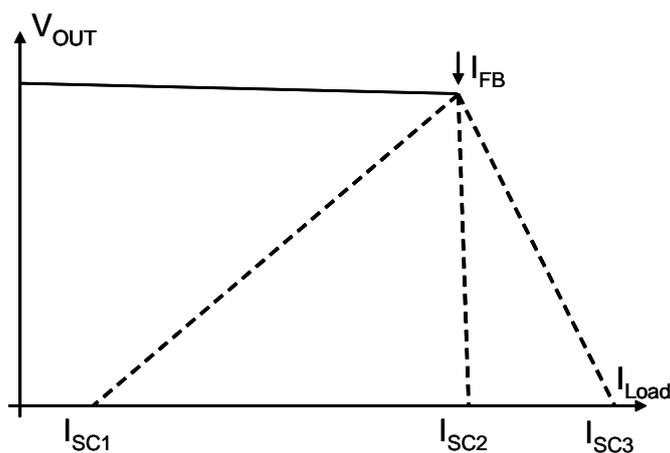
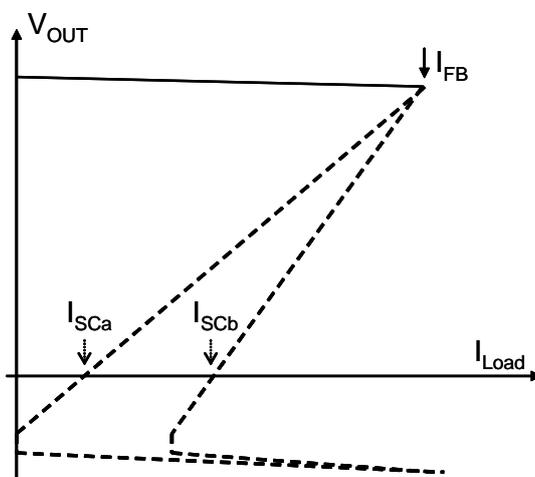

Figure 1: Typical serial regulator DC characteristic with short-circuit protection level lower, equivalent or higher than the foldback current I_{FB} .
Figure 3: Example of 2 different regulator's DC characteristics.
Figure 1 sketches typical voltage regulator DC output voltage characteristics with I_{SC} either smaller (1), equivalent (2) or larger (3) than I_{FB} .
In figure 1, we have only considered the positive voltage part of the regulator DC characteristic. To be correct, the negative voltage part should also be considered! This is often not considered, leading to unexpected behavior when using such regulator in dual (positive and negative) voltage applications. Figure 3 sketches two typical cases for this usually not considered DC part. These cases show that the current can be lower than I_{SC} for slightly negative output voltage. It also shows that the current can increase very quickly when the output voltage becomes more and more negative.